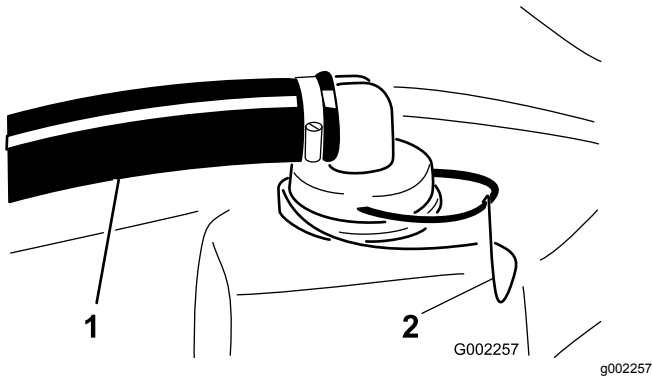

Figure 67
2. Remove the retainer from the red fitting attached to the large hose on the top of the tank (Figure 67).
3. Disconnect the hose from the tank (Figure 67).